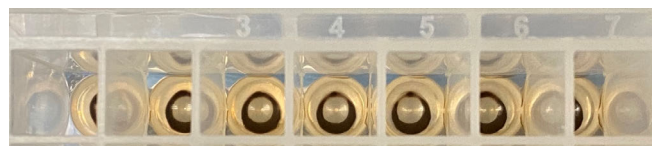

Figure 6 Beads form a ring at the bottom of each sample well.
35. Place the **Purification Plate** on the magnet. Incubate for 1 minute at room temperature. The beads form a ring at the bottom of each sample well. (Figure 6.)